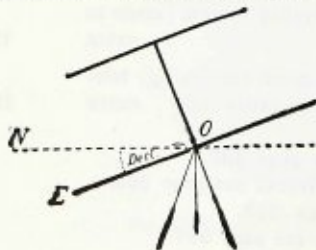

Fig. 1.
1. Incline the transit telescope until the angle of declination, corrected for refraction, is indicated by the vertical limb or arc, depressing the telescope if the sun's declination is north, and elevating it if it is south. See Fig. 1.